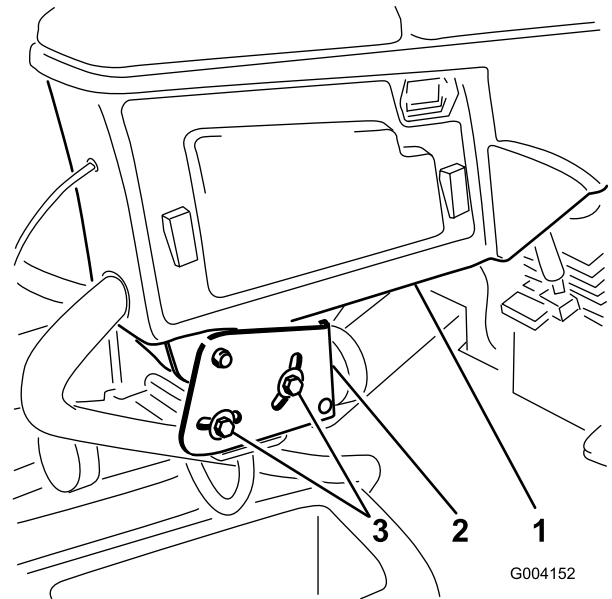

Figure 3
1. Loosen the 2 bolts securing the control arm to the retaining bracket (Figure 3).